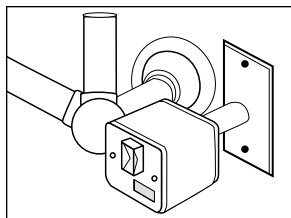

fig 1: Wire Encasement Kit
- C. Check for the enclosed Wire Encasement Kit (included, fig 1).